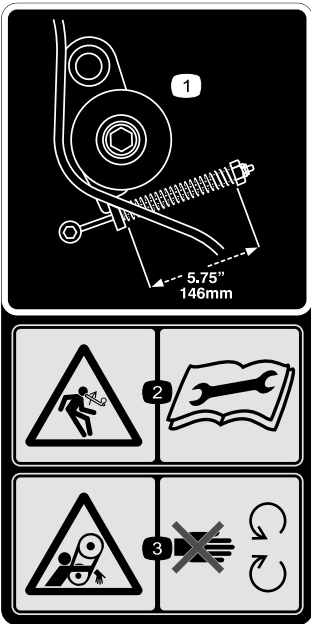

Figure 33
- 1. Check for proper belt tension by compressing idler spring to a length of 146 mm (5-3/4 inches); refer to Figure 33.